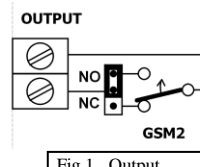

Fig. 1 Output
- Four SMS controlled and isolated relay outputs with NO (Normally Opened), or NC (Normally Closed) terminals – see Fig.1 below.
Elmes GSM2 module features four control relay outputs. Each output has two installation terminals jumper configured to operate in normally opened (NO), or normally closed (NC) mode (see figure 1). Outputs feature the following "GSM2 Configurator" software set parameters: